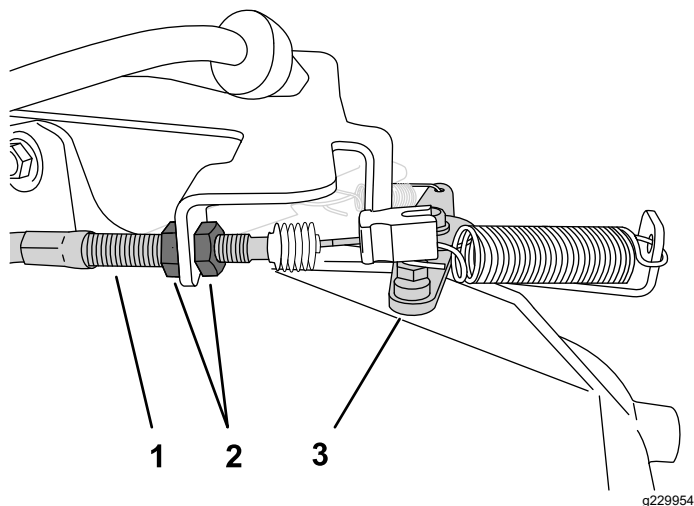

Figure 43
2. At the throttle cable housing, loosen the forward jam nut and tighten the rear jam nut to increase the low idle (Figure 43).